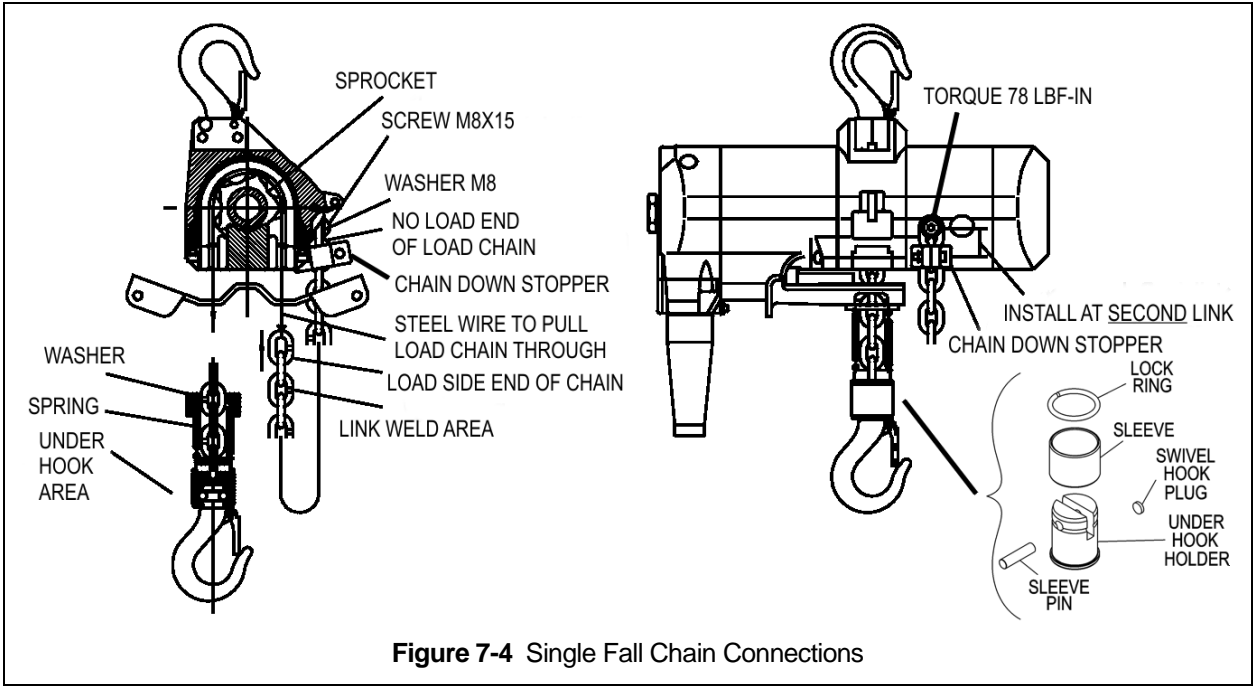
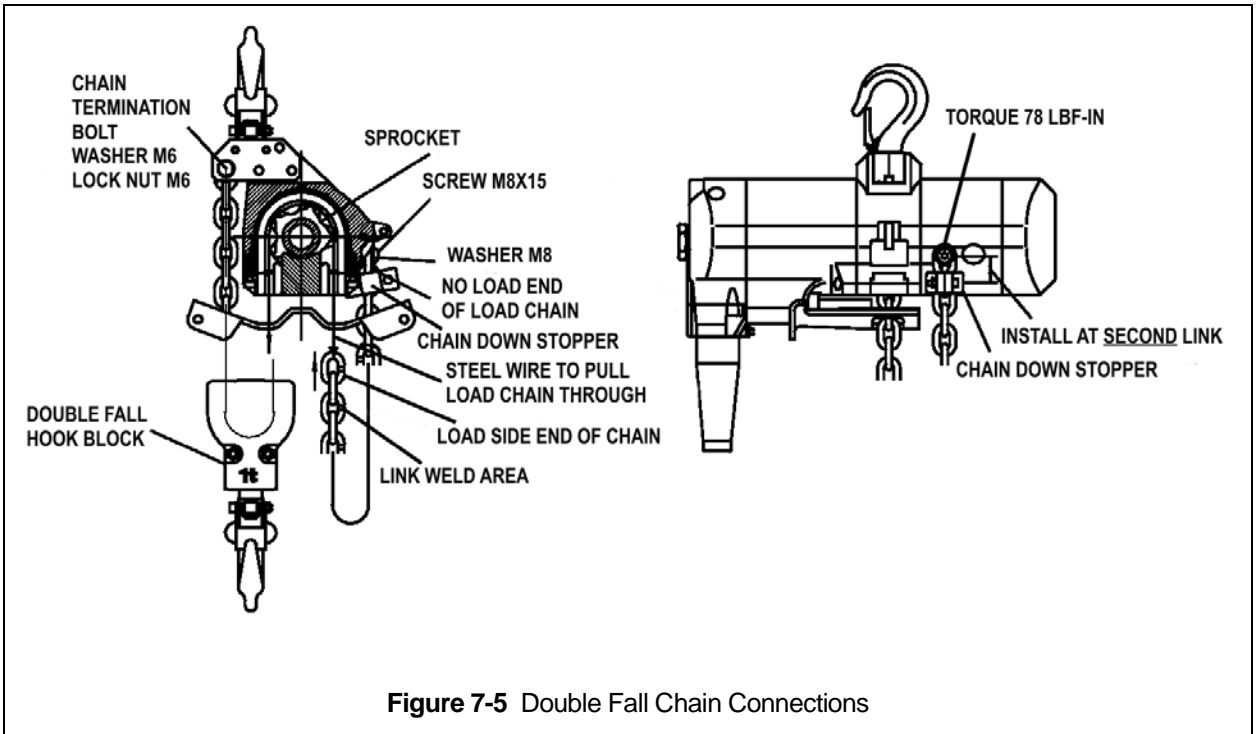

Figure 7-4 Single Fall Chain Connections
Figure 7-5 Double Fall Chain Connections
- 12) Ensure that the Chain remains free of twists and attach the no-load end of the chain to the hoist body with the Flat Washer and Button Head Screw. Reinstall the Bottom Hook Complete Set. Torque the Button Head Screw to 78 lbf-in. Refer to Figure 7-4 and Figure 7-5. Install chain down stopper on the second link from the no-load end. Refer to Figure 7-2, below.